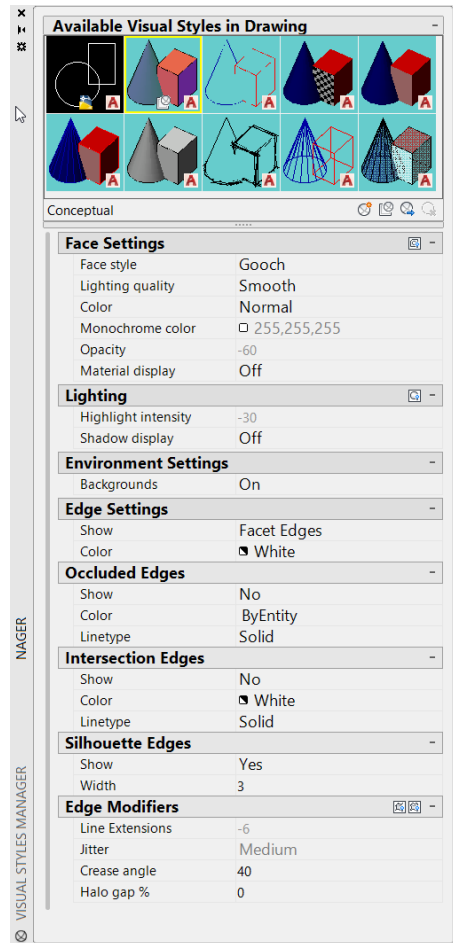

FIGURE 21-8:
- » **Realistic:** Fully shaded, but not rendered visual style; edges are not displayed, and a default ambient lighting highlights the faces with different intensities of the object color. Materials and textures are visible if they've been applied. Have a look at Figure 21-8 for an example.
AutoCAD's preconfigured visual styles are only the beginning. You can modify any of the styles and create new ones in the Visual Styles Manager palette (refer to Figure 21-8).